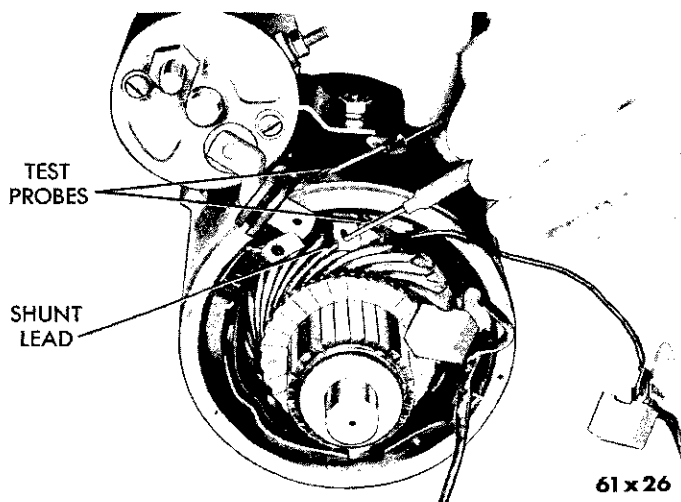

Fig. 11—Testing Shunt Field Coil for Ground
(6) Touch one probe to the shunt field coil lead and the other probe to the field frame (Fig. 11).